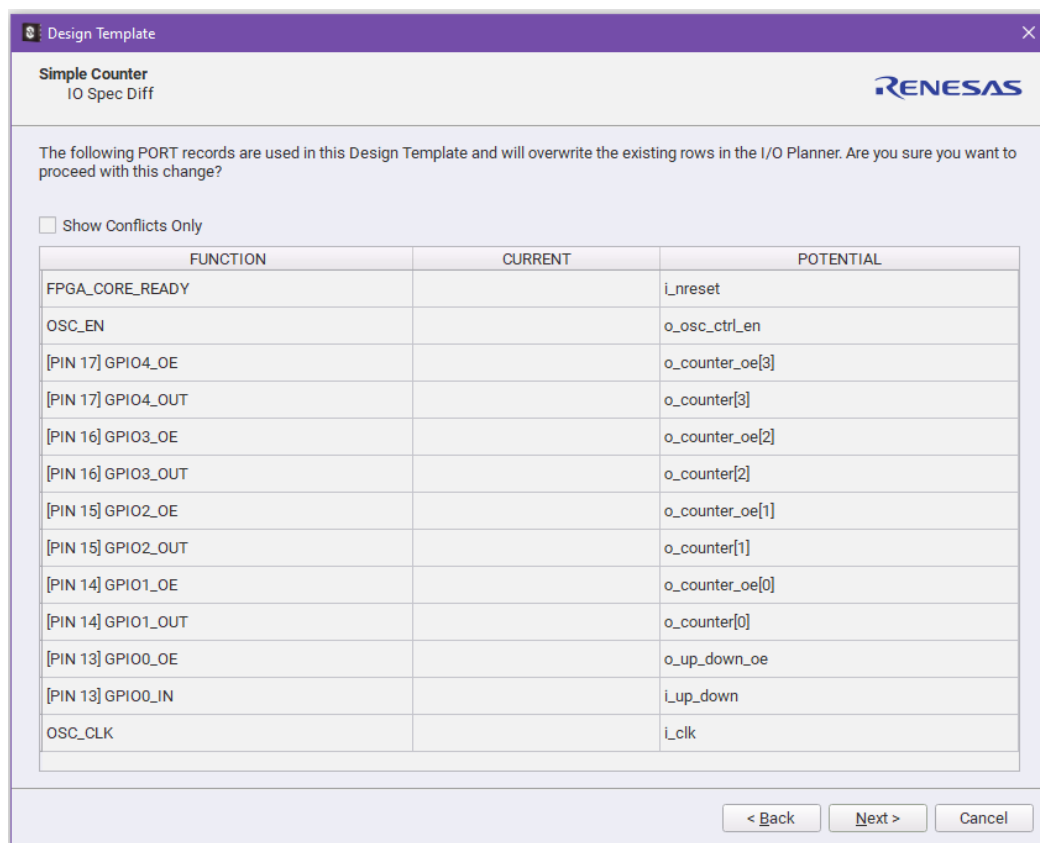

Figure 12. Design Template IO Spec Diff
- *IO Spec* -generates an *IO Spec Diff*, presenting a comparison between the existing design port records and the ones associated with the selected template. This serves as a cautionary step as your current port configurations could potentially be overwritten by those of the chosen template. The software highlights conflicting entries in yellow. You can choose to focus solely on conflicts by selecting the *Show Conflicts Only* option. However, if you prefer not to review the IO Specs, the software streamlines the process by skipping the IO Spec Diff (see Figure 12). In this scenario, the tool will prompt you straight to the Module name.